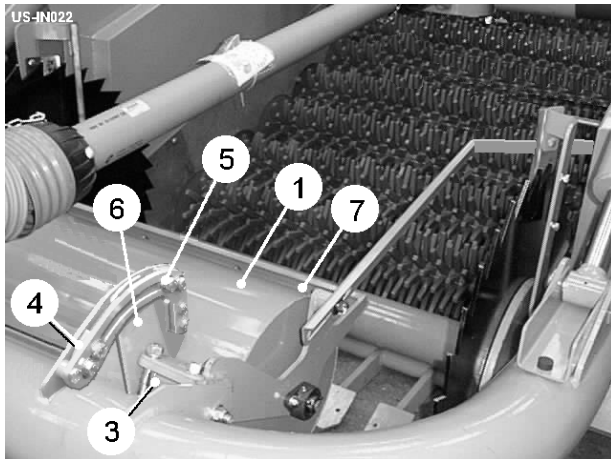
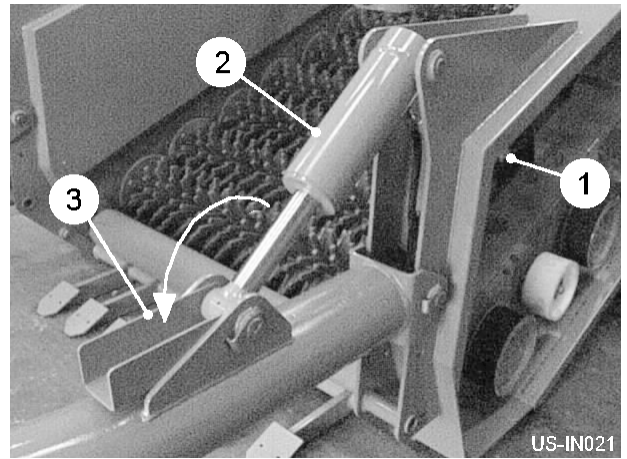

Fig 8
Fig 9
The machine is fitted with an automatic depth control system which ensures an even depth of soil in the finished bed. The depth roller (item 1, fig 8) runs on top of the preformed bed following the contours. The depth roller is linked to a depth sensor (item 1, fig 9) and via the hydraulic valve bank actuates the depth rams (item 2, fig 9). A depth indicator is fitted to the RH depth ram giving the operator a visual indication of the action of the sensing system. The ram stop brackets (item 3, fig 9) must be set in the position shown before commencing work.
The depth roller frame pivots on rubber torsion mountings (item 3, fig 8). By adjusting these mountings it is possible to adjust the amount of pressure the roller exerts on the soil. The pressure setting needs to be made with the machine in work so that the relative working position of the roller and shares is correct.
1. Release the front and rear quadrant stops (item 4 & 5, fig 8) on both sides of the roller unit.
3. Slide the front stops (item 4, fig 8) up against front edge of the quadrant arms (item 6, fig 8) and lightly secure.
4. Raise the machine slightly, causing the quadrant arms (item 6, fig 8) to rotate backwards away from the front stops (item 4, fig 8), and then reposition the front stops up against the quadrant arms and secure fully. The higher the machine is raised prior to repositioning the front stops, the greater spring pressure will be.
5. Lower the machine back into work and set the rear stops (item 5, fig 8) approximately 15mm away from the rear of the quadrant arms (item 6, fig 8). This gap allows the depth roller to drop slightly, maintaining digging depth, when the tractor rides out of the bed onto the headland.
The scrapers (item 7, fig 8) should be set as close to the roller as possible without fouling it.
*Before transporting the machine on the road, reset the ram stop brackets (item 3, fig 9).*